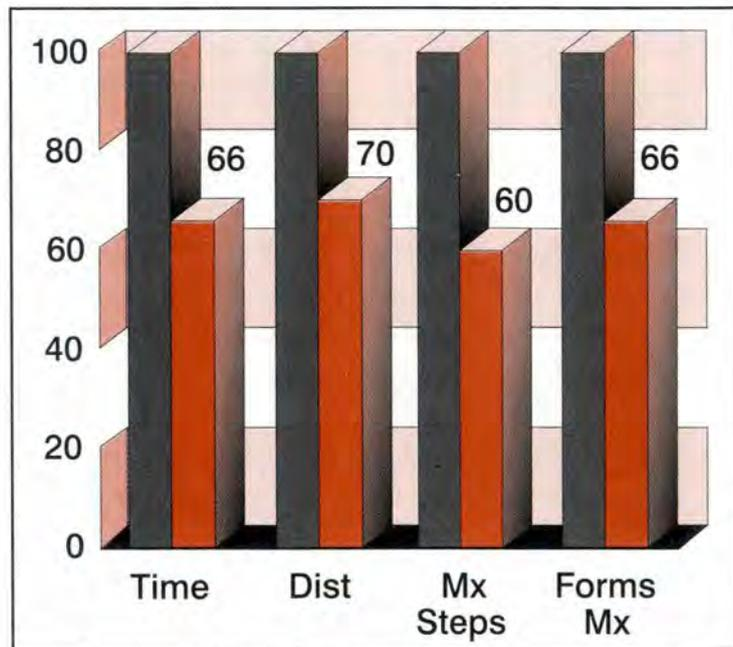

Figure 2. Time required to change an engine was cut 34%, distance traveled was cut 30%, and time spent on forms was cut 26%.
**Example 1.** In the F-15 community, we do a lot of engine changes. Since 1993, the number of engine changes in the 33 FW has increased by 220 percent. Recognizing this as a core process for our flightline folks, the 33 FW recently assembled a team to look at that process (the quality term is “power team”). We augmented this team with some folks schooled in ORM. In other words, we merged ORM with the power team since we would be doing something different and needed to analyze the risks. The operational results were notable, as Figure 2 shows.